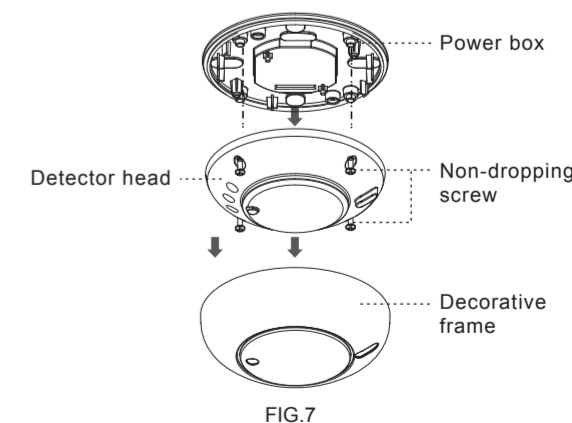

FIG.7
- 4.4.1.1 Take off decorative frame of the detector, then take the detector head apart from power box by unscrew its 4pcs non-dropping screws (See FIG.7).
4.4.1.4 Fix the detector head on power box by inserting its four non-dropping screws into the corresponding screw holes, then cover up the decorative frame (See FIG.7).